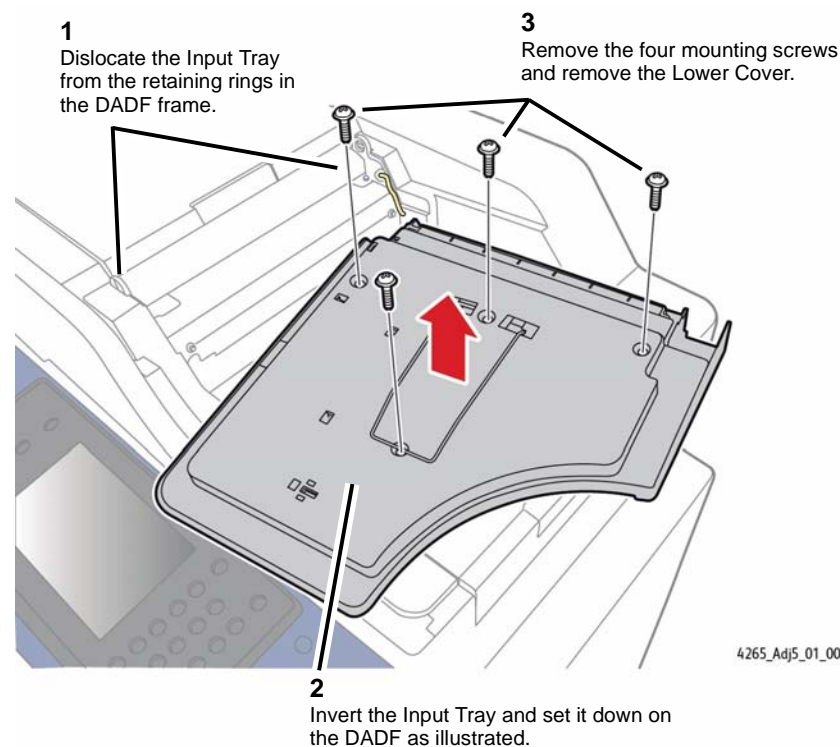

Figure 1 Removing the Input Tray Lower Cover
2. Remove the Input Tray Lower Cover (Figure 1).